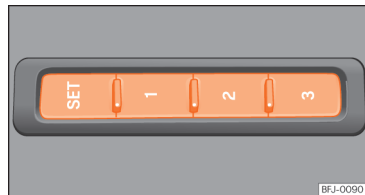

Fig. 79 On the outer side of the driver's seat: memory buttons.
- Press **SET** for longer than 1 second »» Fig. 79.